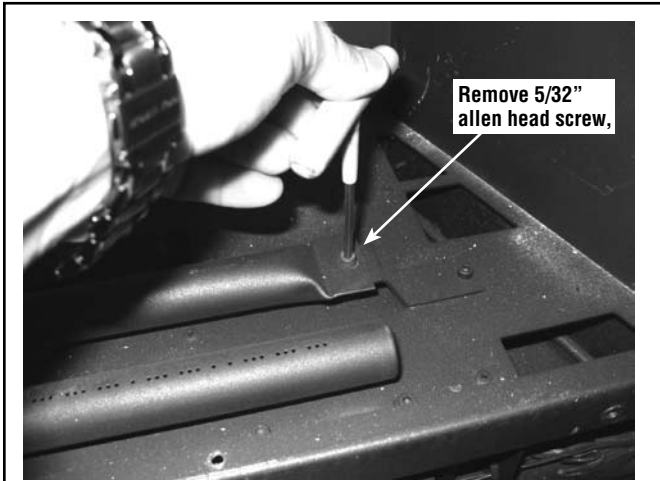

Figure 8 - Remove Screw From Burner
Step 6. To remove burner, unscrew the 5/32" allen head screw, securing the right end of the burner. See **Figure 8**.